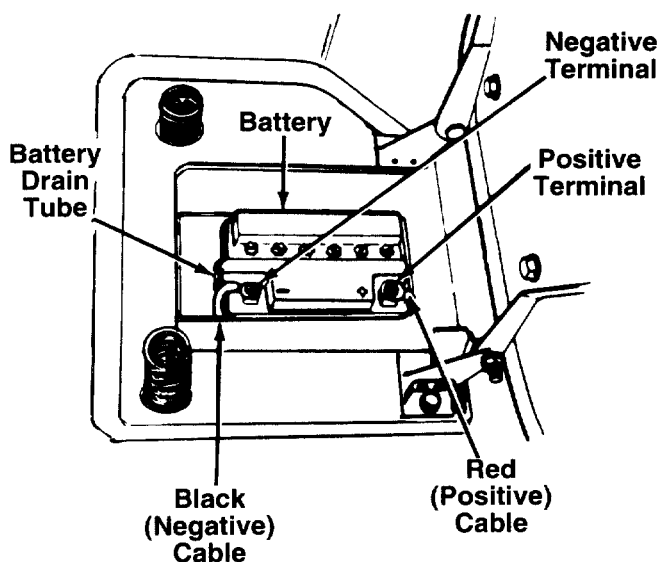

FIGURE 4.
3. Place the battery inside the opening so that the positive terminal is toward the front of the unit. See figure 4. Route the battery drain tube down beside the battery.
4. Remove the hex bolt from the positive (+) terminal. Place the positive cable on the positive terminal. See figure 4. Secure with hex bolt. Be careful not to lose the nut inside the terminal.